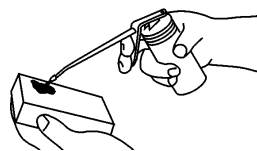

Figure 17
5. Apply one tablespoon of SAE 30W oil to the air filter (Fig. 17).